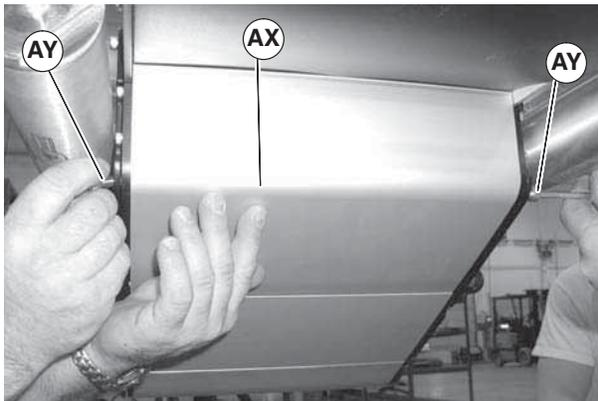

Figure 88
2. Temporarily support idler guard assembly (Figure 88, item AX). Remove screws (AY).